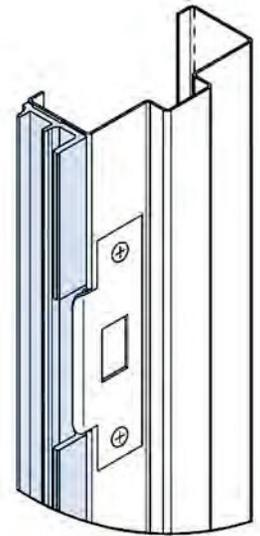

Fig. 1
**NOTE** Latch Guard can be trimmed around frame and door hardware, but Latch Guard must remain as a single piece and sit flat on face of frame and door – do NOT cut into sections, See trim example (Fig. 1).